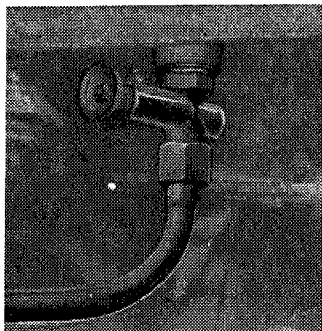
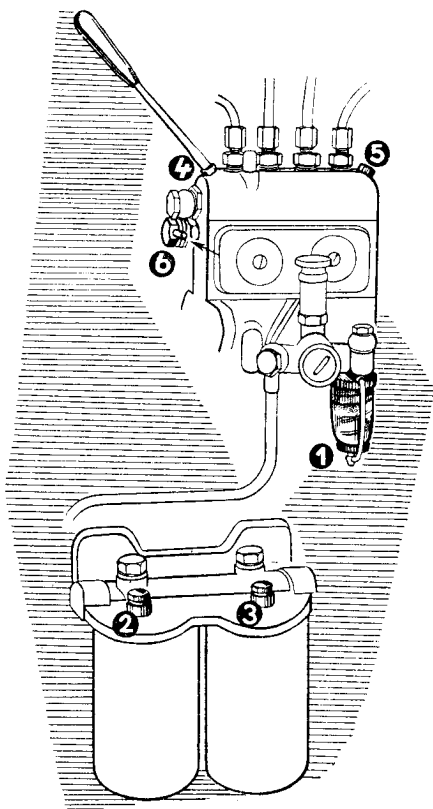

Fig. 2
Fig. 4
1. Open the fuel cock (Fig. 2) and loosen the stirrups of the precleaner bowl (Fig. 4/1) so that the bowl is filled with fuel without air bubbles. Attach the bowl by tightening the stirrup.
2. Loosen the bleeding screws of the fuel filters (Fig. 4/2, 3) and pump manually until Diesel oil flows out without bubbles from both of them. Tighten the screw of the coarse filter (Fig. 4/2) and proceed with pumping for another moment. Then tighten also the screw (Fig. 4/3) of the second filter.
3. Loosen the bleeding screws of the fuel injection pump (Fig. 4/4, 5) and pump manually until Diesel oil without air bubbles escapes around these screws. Without interrupting the pumping, tighten the screw 4 and then the screw 5.
The correction starter considerably facilitates the starting of the engine; it is put into operation by depressing the push button (Fig. 4/6) and is switched off automatically by the least movement of the fuel delivery governor lever.